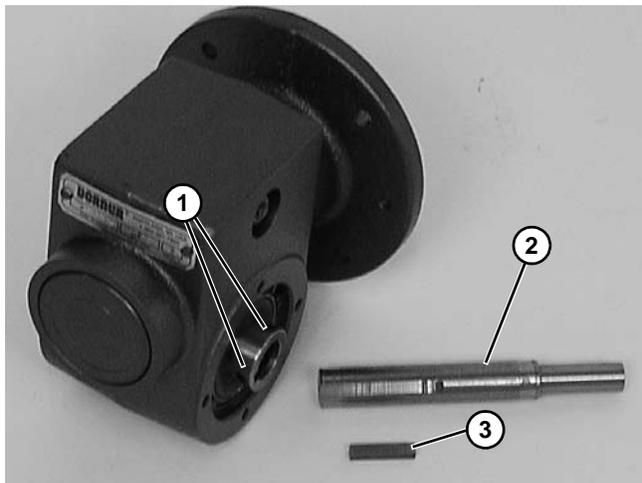

Figure 38
- Loosen six (6) set screws (**Figure 38, item 1**). Remove drive shaft (**Figure 38, item 2**) and key (**Figure 38, item 3**).
- Replace the original shaft components into new gear reducer (**Figure 38**).